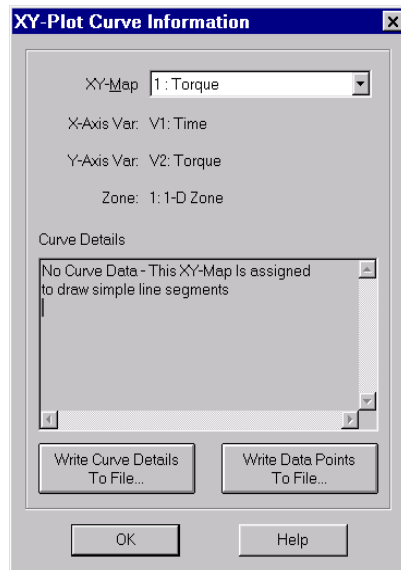

Figure 8-26. The XY-Plot Curve Information dialog.
1. From the Data menu, select XY-Plot Curve Info. The XY-Plot Curve Information dialog appears, as shown in Figure 8-26.